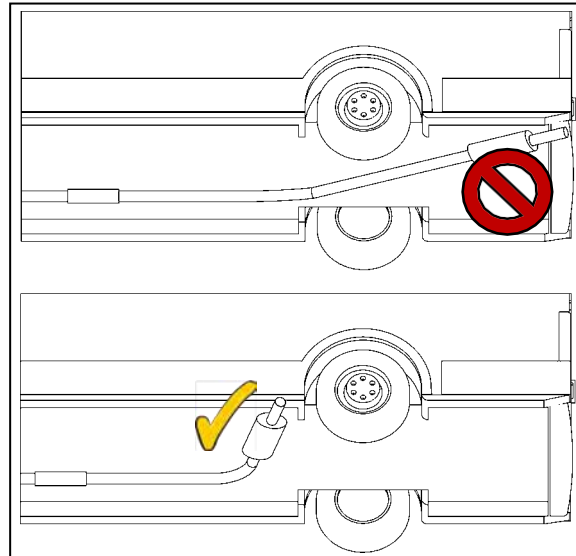

Figure 7
- Be sure to maintain a sufficient distance from heat-sensitive parts. The minimum distance from plastics and cables is 300 mm (see Fig. 7).